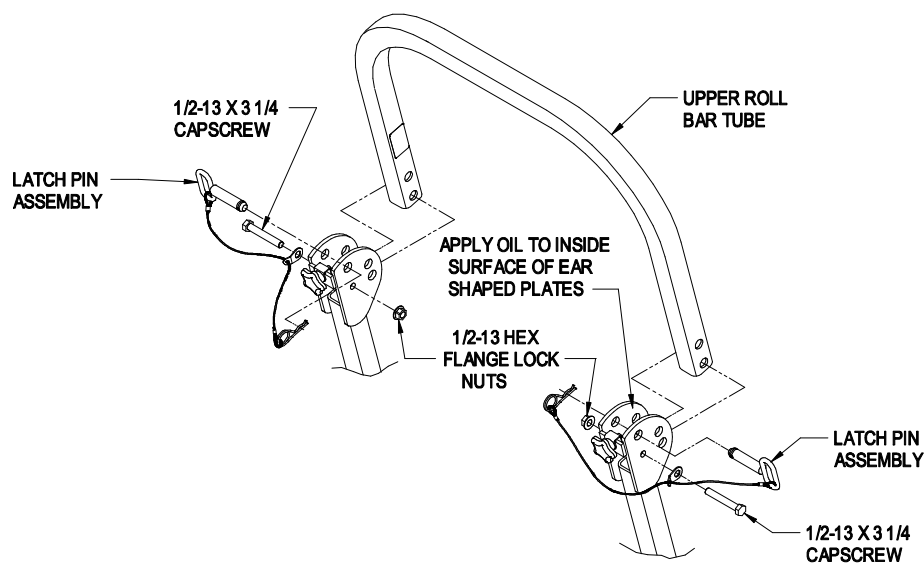

FIGURE 5
- 3.2.14 *All units with a ROPS installed:* Install the upper u-shaped section of the roll bar. (Reference Figure 5 for alignment and installation instructions below):